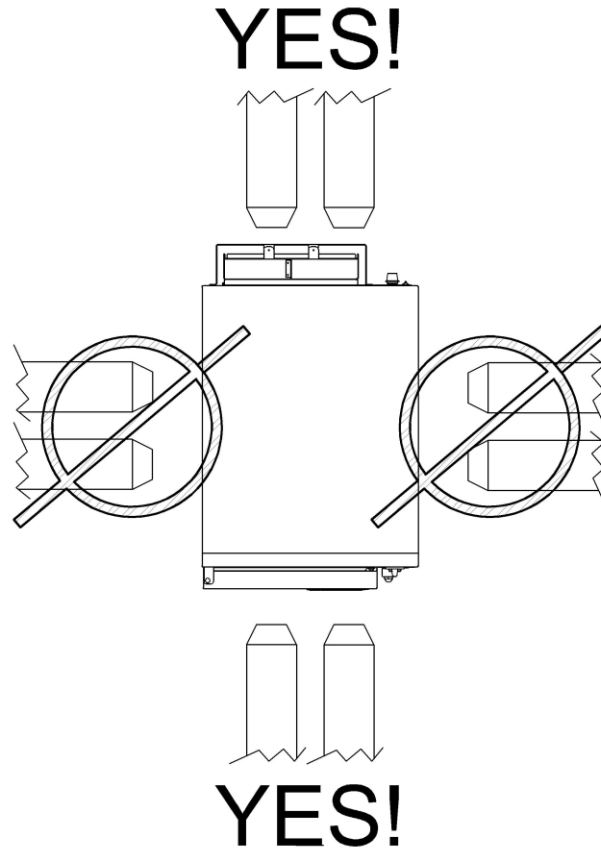

Figure 1-1
- e. The appliance is now ready to be moved to its final location. Lift the appliance off the blocks, and move it to its final location. Do **NOT** lift from sides. See Figure 1-1.